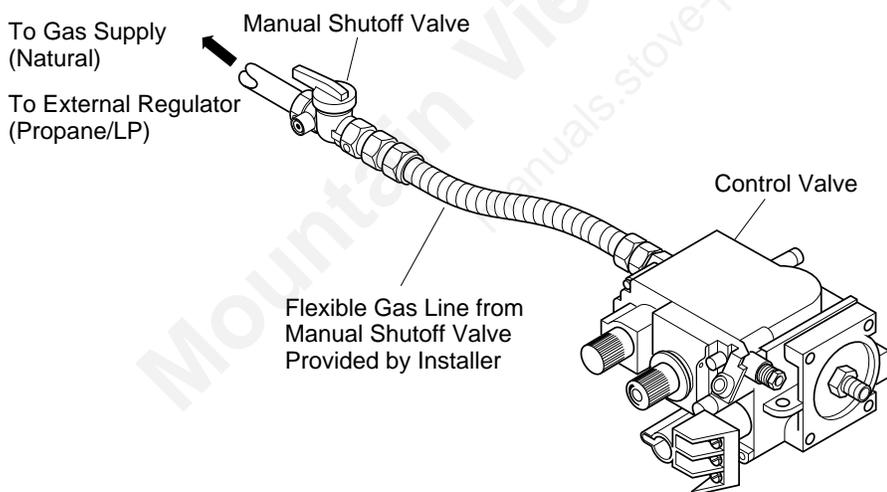

Figure 36 - Attaching Flexible Gas Line to Control Valve
3. Attach flexible gas line from gas supply to control valve (see Figure 36).